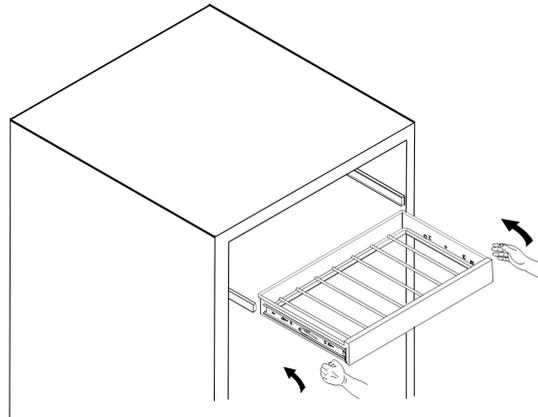

Figure 2
- Push the racks into sliders. (See figure 2)